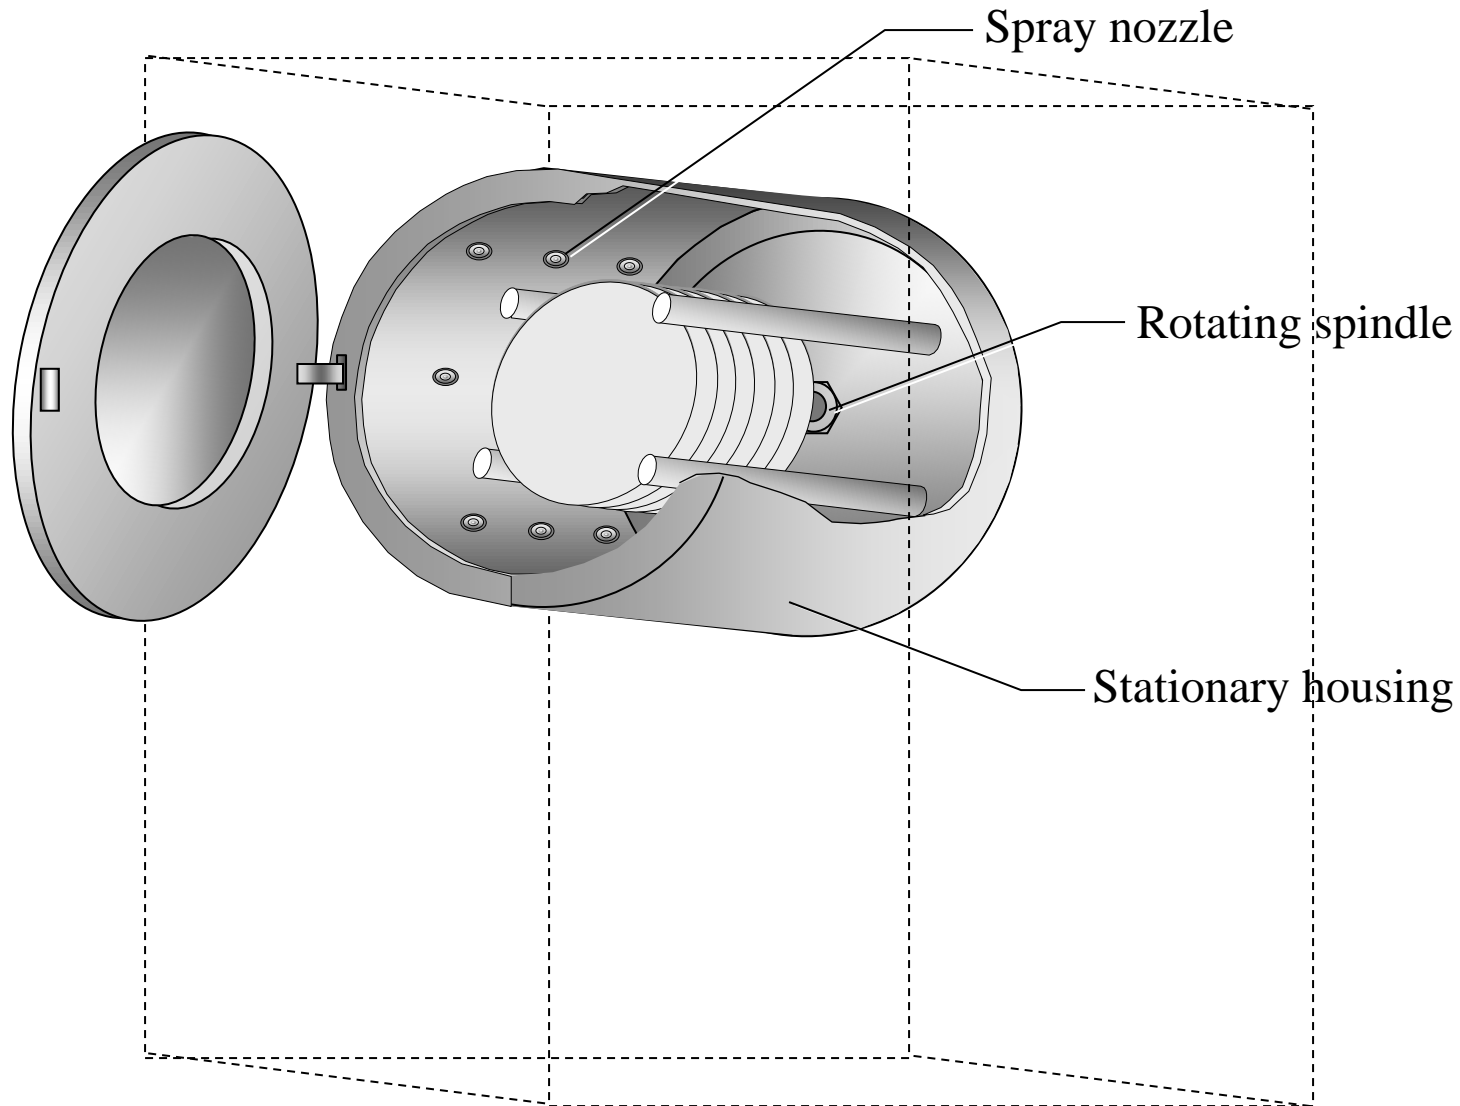

Figure 6.29
- Oxide-free surfaces that have been hydrofluoric acid (HF) etched and **hydrophobic** due to the hydrogen-terminated surface.
- (a) Spin dryers [Fig.6.29]: **high-speed** rotation removes moisture while wafers are sprayed with **heated nitrogen**